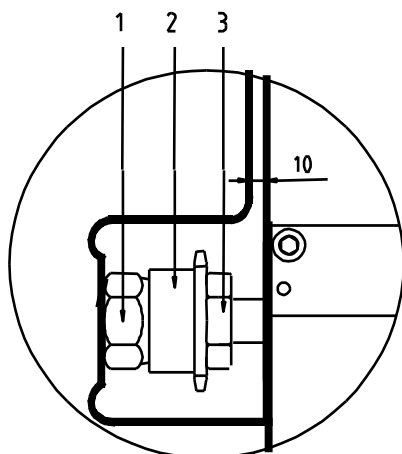

Figure 21. Clearance adjustment components
- Turn the clearance motor manually (with the bolt on the back of the clearance motor) until the cutter guide beam is approximately 10 mm (see fig. 21) away from the cutting assembly in the side frame.